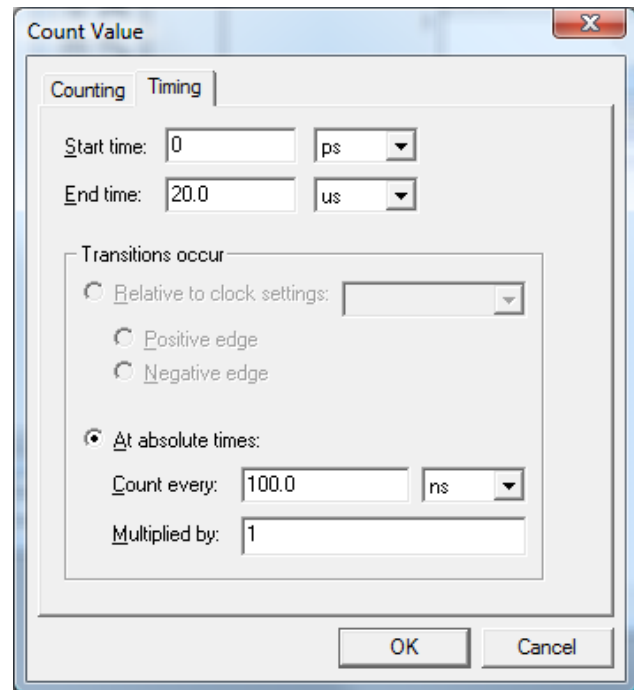

Figure 7: Count value timing increment.
To set the count time, select the address bus (A) with the right mouse key, then select “Value”, the “Count Value.” Now go to the “Timing” menu and change the “Count every” entry to 100ns. This window is shown in Figure 7.